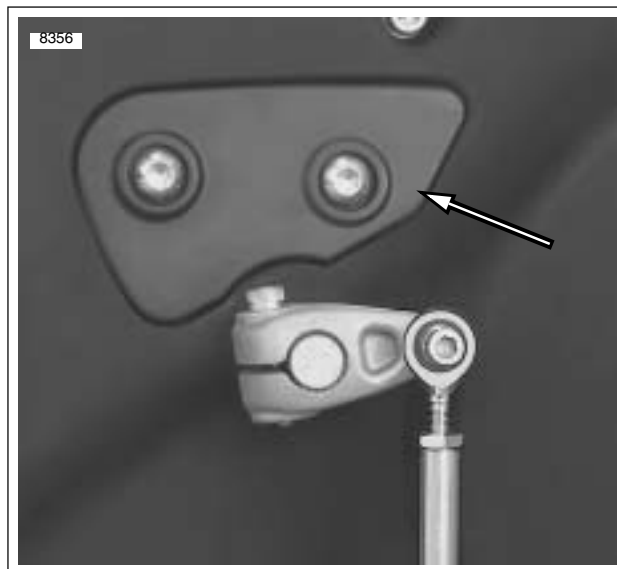

Figure 1-27. Primary Chain Inspection Cover
See Figure 1-27. Measure primary chain tension through the inspection cover opening. Adjust primary chains not meeting vertical free play specifications.
1. See Figure 1-27. Remove two fasteners with captive washers and primary chain inspection cover with gasket from primary cover.
4. See Figure 1-27. Install primary chain inspection cover and **new** gasket to primary cover using two fasteners with captive washers. Tighten fasteners to 40-60 **in-lbs** (5-7 Nm).